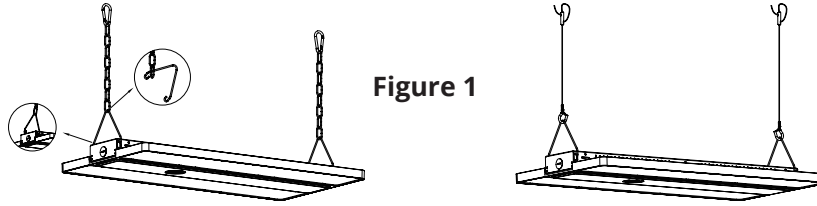

Figure 1
- Step1.** Hook up the chain; **(Figure 1)**
- Step2.** Connect the chain with fixture; **(Figure 1)**
- Step3.** Fix the chain on the rail, adjust the chain length as per need; **(Figure 1)**